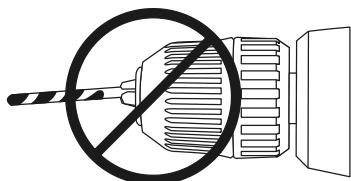

Fig. 4
**⚠ WARNING:** DO NOT insert the drill bit into the chuck and tighten as shown in Fig. 4. The drill bit MUST be properly inserted with all three of the chuck jaws holding the bit centered in the chuck. Failure to properly insert the drill bit could cause the drill bit to be thrown from the chuck, and could result in serious injury or damage to the chuck.